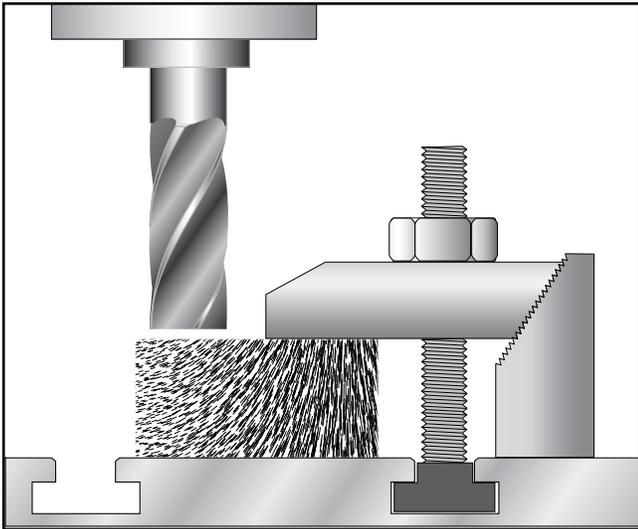

Figure 18. Step clamp is straight and secure.
- Make sure the interlocking components of the step clamps engage fully and that the step clamp lays evenly on the workpiece. See Figures 18 and 19.